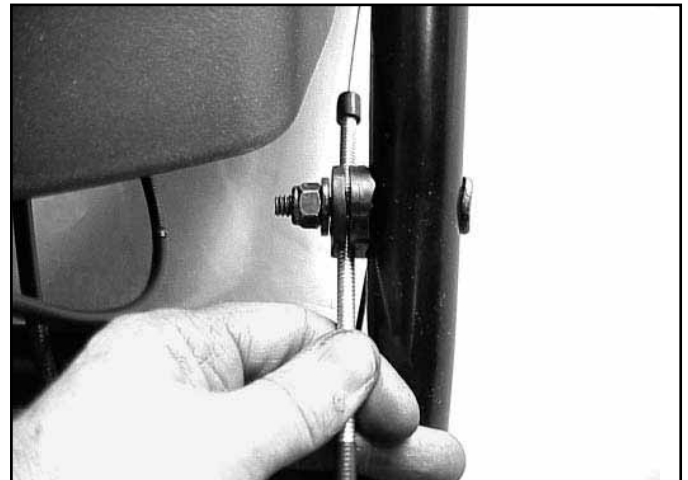

Fig 056
- Pull the cable jacket down gently until the wheel clutch lever is down and the slack is out of the cable, and then tighten the cable clamp nut securely (Fig. 056).